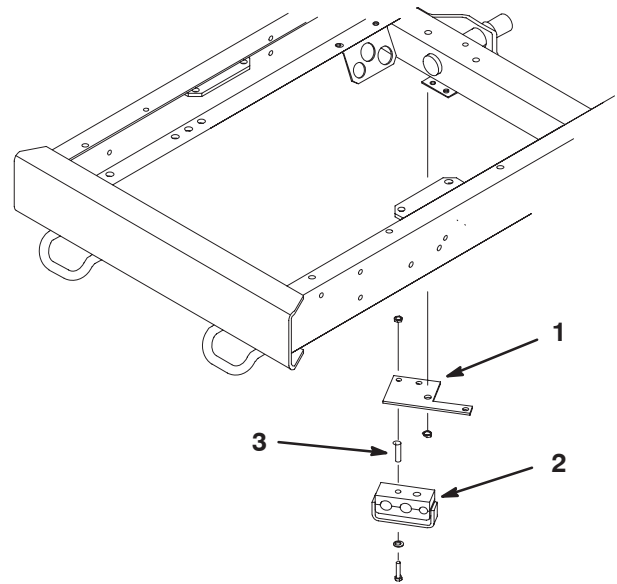

Figure 13
16. Insert the spacer into the hose clamp. Attach the hose clamp to the hose bracket using two 1/4-20 x 2-1/2" lg. screws and nuts. Remove the bolts and locknuts from the left front motor mount near the left side of the carrier frame and discard the locknuts. Install the hose bracket and hose clamp with the previously removed bolts and two new locknuts (Fig. 13).